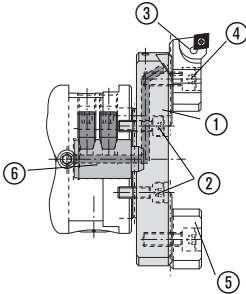
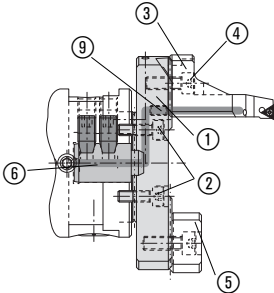
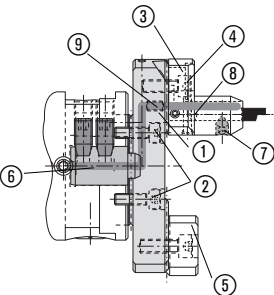

Fig. 5: Boring  $\varnothing 68 - 208$  mm
Fig. 6: Outside turning  $\varnothing 2 - 114$  mm
Fig. 7: Axial grooving up to  $\varnothing 136$  mm
## Serrated adapter slides with coolant delivery section (page 13), insert holders for boring (Fig. 5), insert holders for outside turning (Fig. 6) as well as insert holders for axial grooving (Fig. 7) and counterweight
Insert the cutting fluid feeder into the mounting bore in the slide and secure it with the two threaded taper pins (tightening torque 8 Nm (70.81 in. lbs.)). When the grooving cutter is fitted in the adapter (Fig. 7), it reaches its cutting edge position by applying the face ⑧ at the shank end and is clamped on the slanting surface by a tapered grub screw ⑦ (tightening torque 4 Nm (35.4 in. lbs.)). When mounting **insert holders for outside turning or holders for axial grooving** on the serrated slide, note that the thread pin ⑨ has to be removed if **coolant** is used.